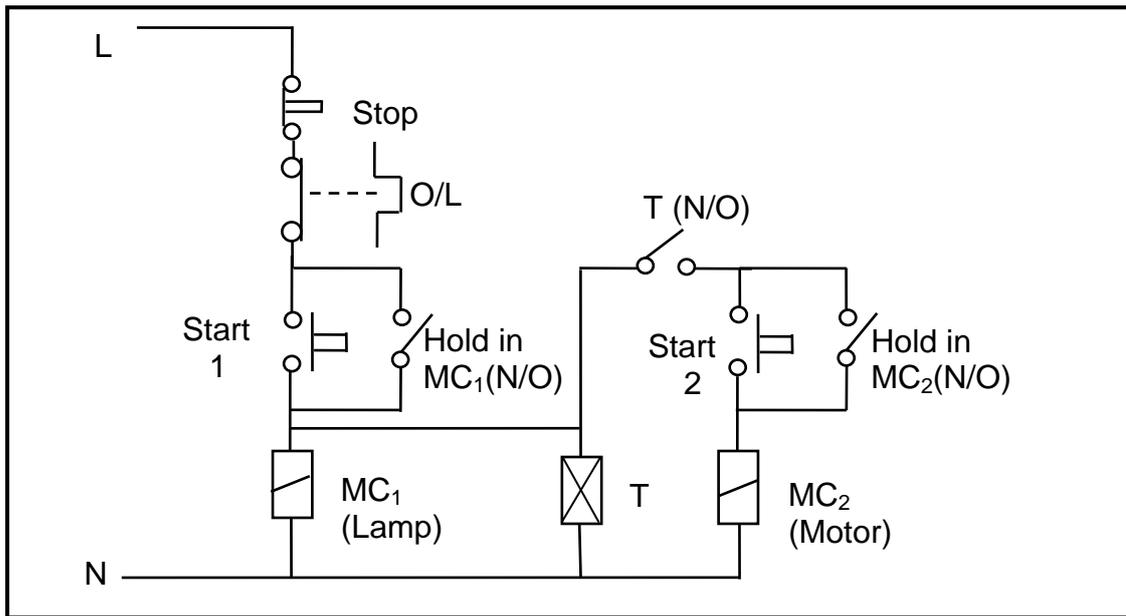

FIGURE 6.1: RELAY CONTROL CIRCUIT
6.7 Refer to the circuit diagram in FIGURE 6.1 and answer the questions that follow.
6.7.1 Identify the circuit in FIGURE 6.1. (2)
6.7.2 Draw the PLC ladder logic diagram that would execute the relay control circuit in FIGURE 6.1. Your diagram must include a marker or a flag function. (8)